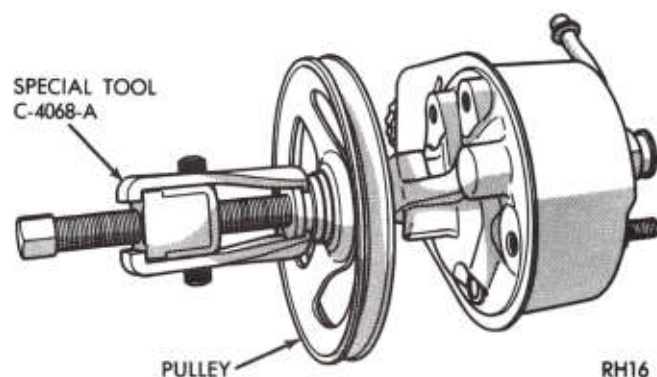
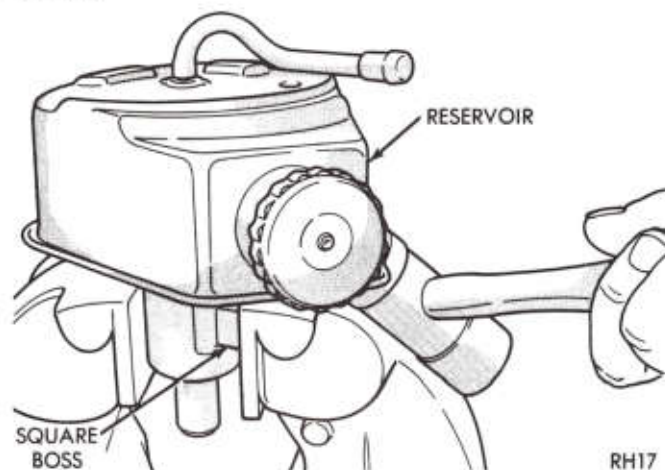

Fig. 4—Remove Pulley
Fig. 5—Remove Reservoir
(1) Remove pump assembly from engine. Drain reservoir and reinstall filler cap to prevent contamination, then clean exterior of pump assembly before servicing.
(2) Clamp pump securely into vise at mounting bracket.
(3) Using Tool C-4068A, remove pulley. Be sure puller screw is perfectly aligned with shaft end to prevent cocking (Fig. 4).
(4) Remove brackets from pump.
(5) Using soft protective jaws, clamp pump (shaft down) in vise between square boss and shaft housing (Fig. 5).
(6) Remove two mounting studs and pressure hose fitting. Gently tap reservoir filler tube back and forth with plastic hammer to loosen. Work reservoir off pump body (Fig. 5). Discard O-rings from reservoir, two mounting studs and pressure fitting.